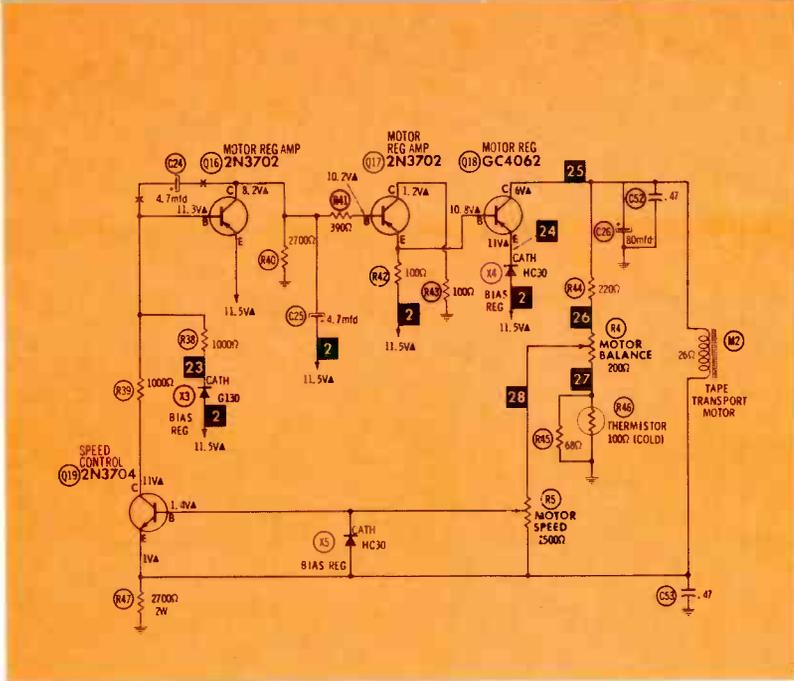

Fig. 1. Speed regulator circuit employed in Lear-Jet auto-stereo tape units.
Any series-type transistor voltage regulator works well for this. However, Lear-Jet machines use a sophisticated arrangement (Fig. 1) that does a pretty good job of keeping the voltage steady under many conditions.
Fig. 1 Decrease in gain at upper edge of channel passband can result in loss of chroma information. (A) Gain curve of typical all-channel, b-w TV antenna. (B) Excessive drop in gain at upper frequencies of channel 6 passband causes distortion or complete loss of color.